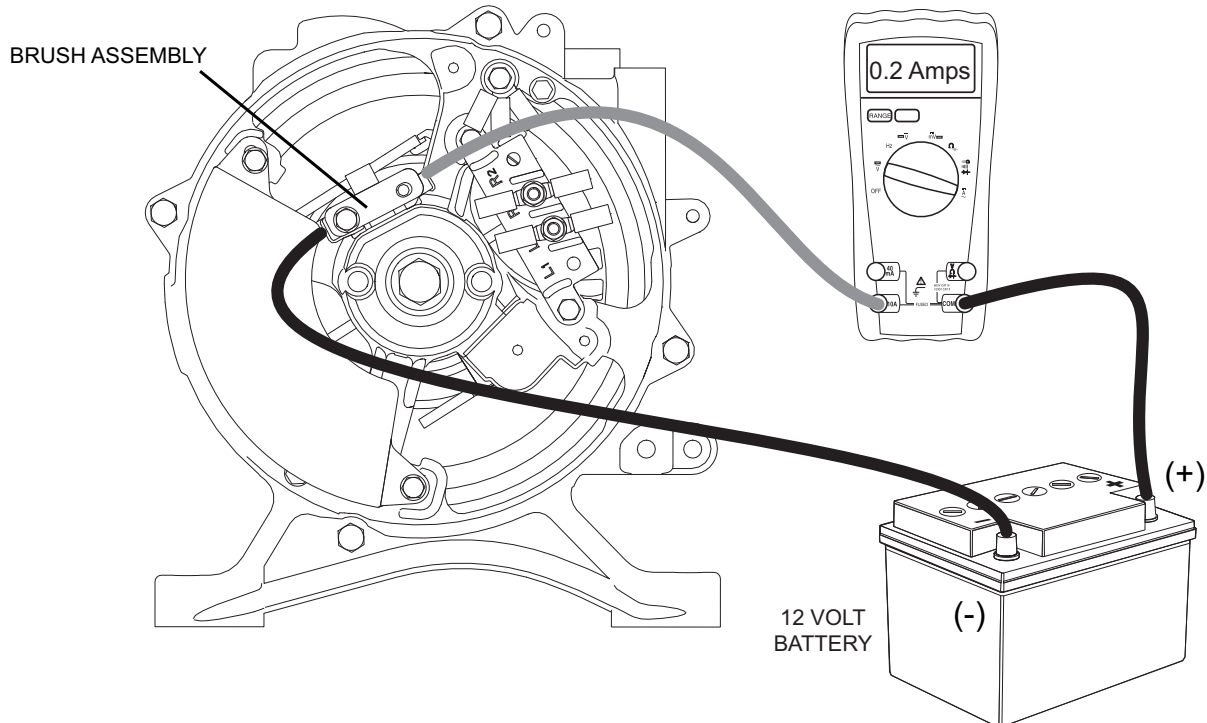

Figure 2-5. Jumper Wire and DMM Between Battery and Brush Assembly
2. See **Figure 2-5**. Connect meter test leads to the excitation windings at the back of the alternator.